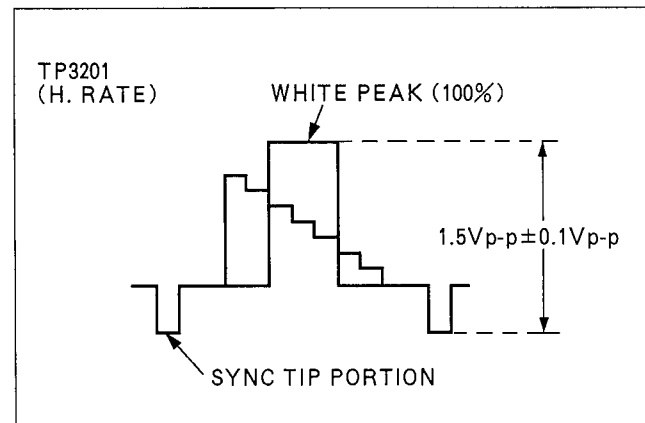

Figure E6
SPEC.	1.5Vp-p $\pm$ 0.1Vp-p (FIG. E6)
2. Adjust VR3003 so that the white peak (100%) level becomes maximum and the beat on the sync tip portion of the color bar signal becomes minimum as shown in Figure E6.
3. Adjust VR3006 so that the level of color bar signal becomes 1.5Vp-p  $\pm$  0.1Vp-p as shown in Figure E6.